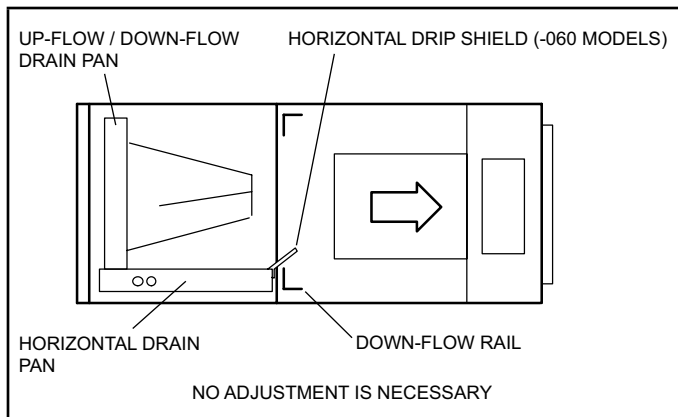

FIGURE 4. Right-Hand Discharge Configuration
- 2 - Install the horizontal drip (060 model) shield on the front edge of the horizontal drain pan as illustrated in figure 4.